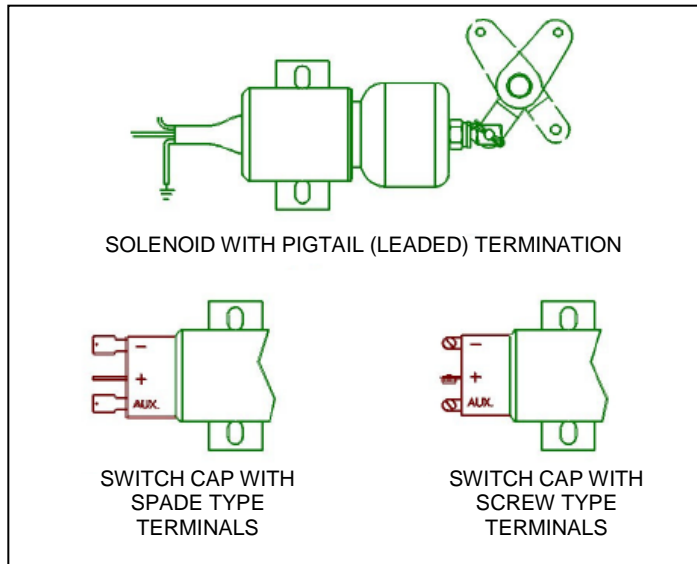

Figure 5. Terminations on Internally Switched Solenoids
**Figure 5** shows a variety of terminations on internally switched solenoids.